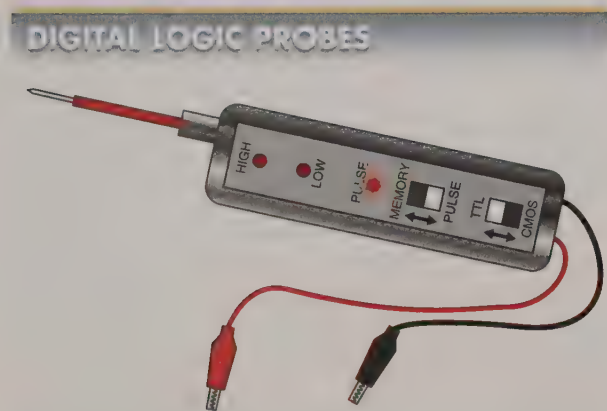

Figure 3-30. A digital logic probe is a special DC voltmeter that detects the presence or absence of a signal.
A *digital logic probe* is a special DC voltmeter that detects the presence or absence of a signal. Displays on a digital logic probe include logic high, logic low, pulse light, memory, and TTL/CMOS. See Figure 3-30. The high LED lights when the logic probe detects a high logic level (1). The low LED lights when the logic probe detects a low logic level (0). The pulse LED flashes relatively slowly when the probe detects logic activity present in a circuit. Logic activity indicates that the circuit is changing between logic levels. The pulse light displays the changes between logic levels because the changes are usually too fast for the high and low LEDs to display.